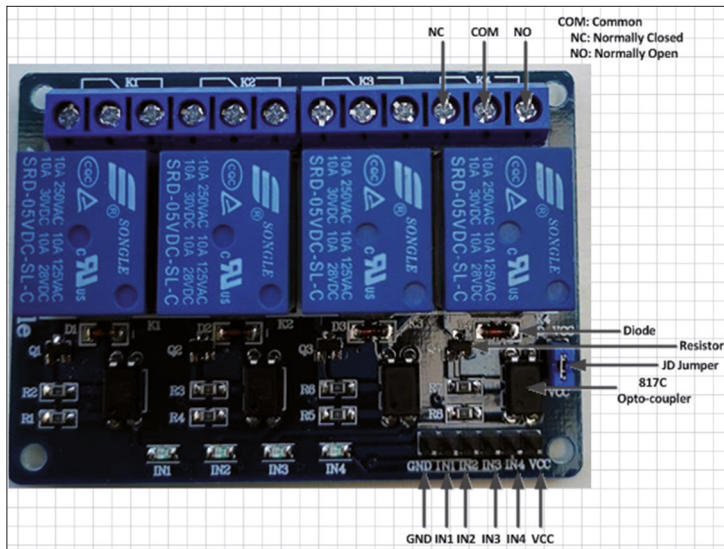

Figure 4.6: Four-channel relay board.
**Circuit Diagram:** In this project, a 4-channel relay board from Elegoo ([www.elegoo.com](http://www.elegoo.com)) is used (Figure 4.6). This is an optocoupled relay board with 4 inputs — one for each channel. The relay inputs are at the bottom right hand side of the board while the relay outputs are located at the top side of the board. The middle position of each relay is the common point, the connection to its left is the normally closed (NC) contact, while the connection to the right is the normally open (NO; N.O.) contact. The relay contacts support 250VAC at 10 A and 30 VDC at 10 A. IN1, IN2, IN3 and IN4 are the **active-LOW** inputs, which means that a relay is activated when a logic LOW signal is applied to its input pin. The